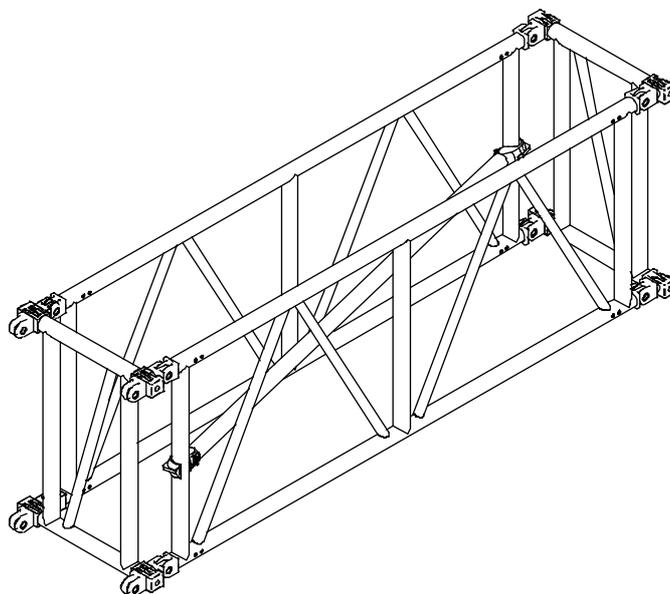

Fig. 18
5. fix the forks by cylindrical pins and safety pins and put a diagonal brace with click hands (RAH191M4) as shown on figure 18.